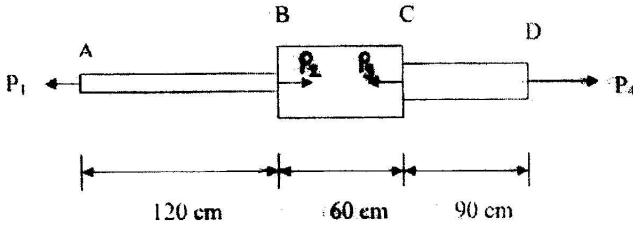

Figure No. 1 (Q. 1-b)
- (b) A member ABCD is subjected to axial loads P_1 , P_2 , P_3 and P_4 as shown in Figure No. 1 Calculate the force P_2 necessary for equilibrium if $P_1 = 4500$ N, $P_3 = 45000$ N & $P_4 = 13000$ N. Determine the total elongation of the member if modulus of elasticity is 2.1×10^6 N/cm². The cross-sectional area of AB is 6.25 cm², BC is 25 cm² and CD is 12.5 cm². 15